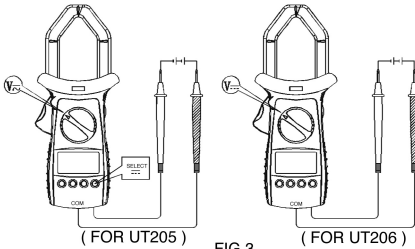

FIG 3
A. DC Voltage Measurement (See figure 3)